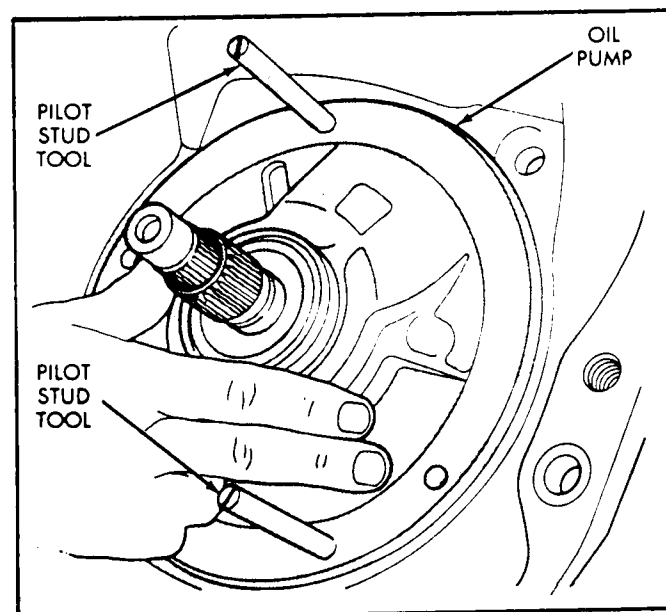

Figure 143
36. Align and install front oil pump over the pilot studs and into the case, as shown in Figure 143.